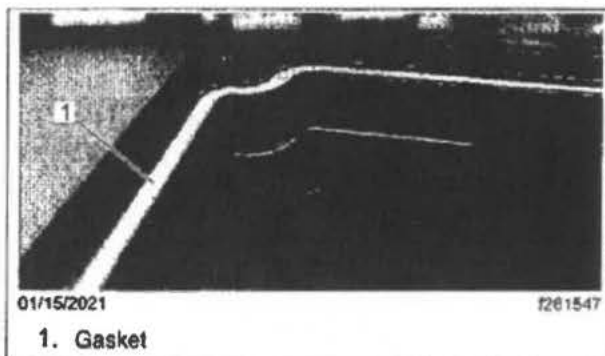

**Fig. 2, Gasket Location**
**IMPORTANT:** Take care not to damage the gasket while removing the actuator cover. Do not remove the gasket from the gasket groove. See Fig. 2 for gasket location.